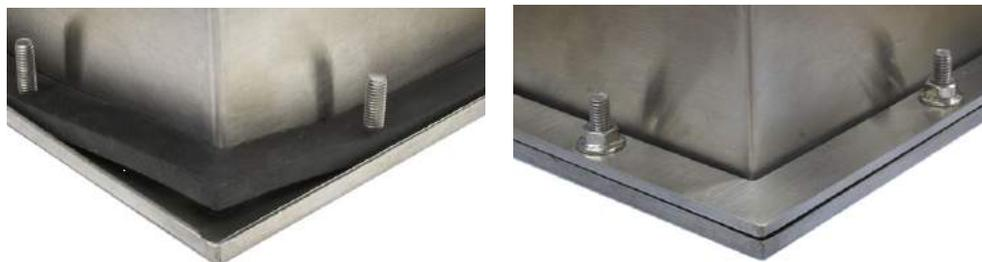

Figure A-6: Gasket on Enclosure (left) and Backing Plate Installed (right)
2. Loosen and remove the eight, 8 mm shoulder nuts holding the backing plate to the enclosure. The gasket should remain in position on the terminal. Figure A-6 shows two images of the enclosure, one with the backing plate removed to show the gasket, the other with the backing plate installed.